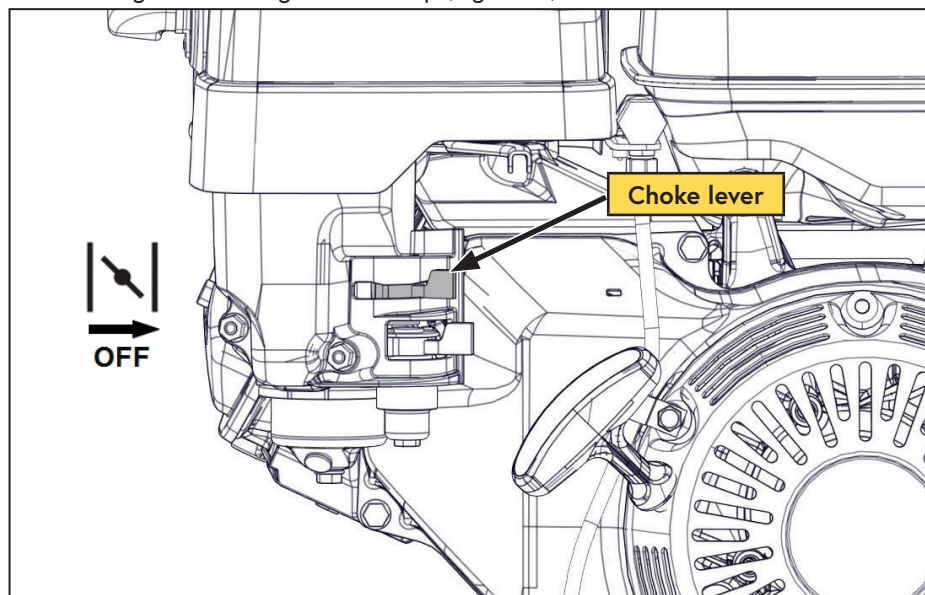

Figure 19 — Choke
- 7) Once the engine is running, gradually open the choke by moving the choke lever to the right as the engine warms up (Figure 19).